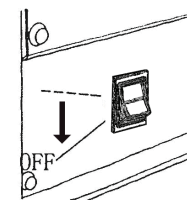

Figure 35
5.2.3 Set the ignition switch to OFF position (Figure 35)